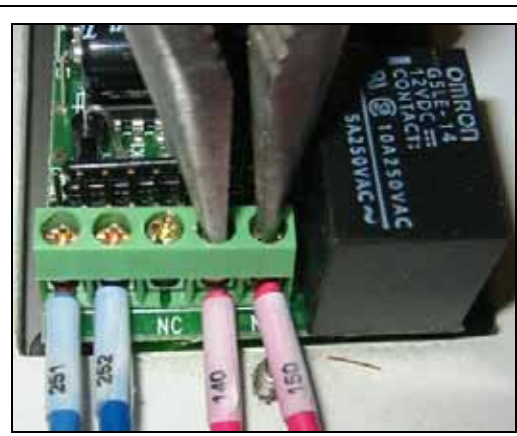

Figure 4, Using pliers to force system ON
Step 6) Figure 4 shows how to short two contacts together with pliers. This will bypass the keypad and force the system to become active (the Start/Stop button will illuminate just as if a valid security code was entered.) This tests that the remainder of the system is operating properly and that the problem may be in the keypad.